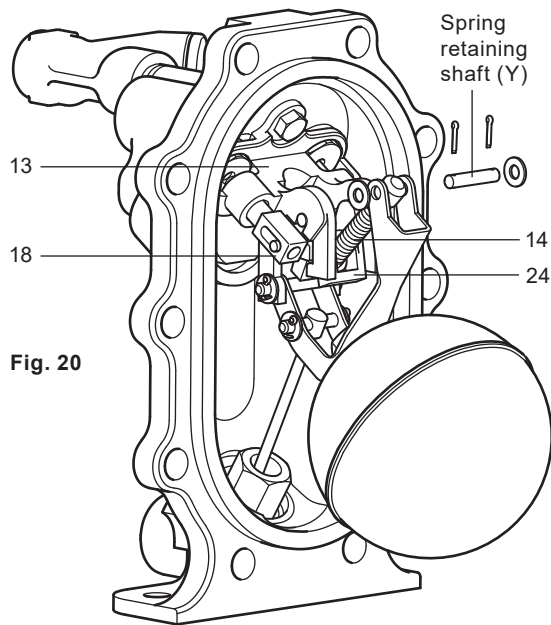

Fig. 20
3. Remove the split pin and washer from one side of the spring retaining shaft (Y) and carefully remove. (See Fig. 20).